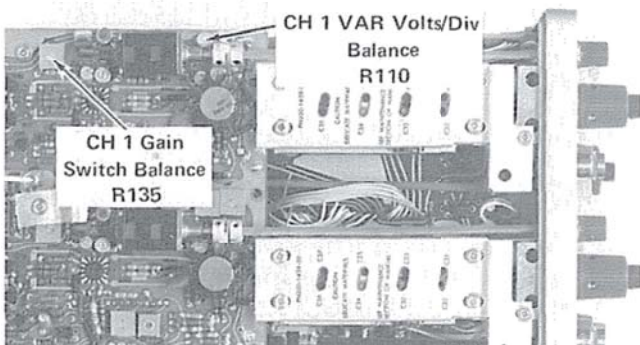

Fig. 5-8. Location of CH 1 Var Volts/Div Balance and Gain Switch Balance adjustments.
d. ADJUST—CH 1 Gain Switch Bal adjustment, R135 (see Fig. 5-8), for minimum trace shift between 2 mV and 5 mV positions of the CH 1 VOLTS/DIV switch.